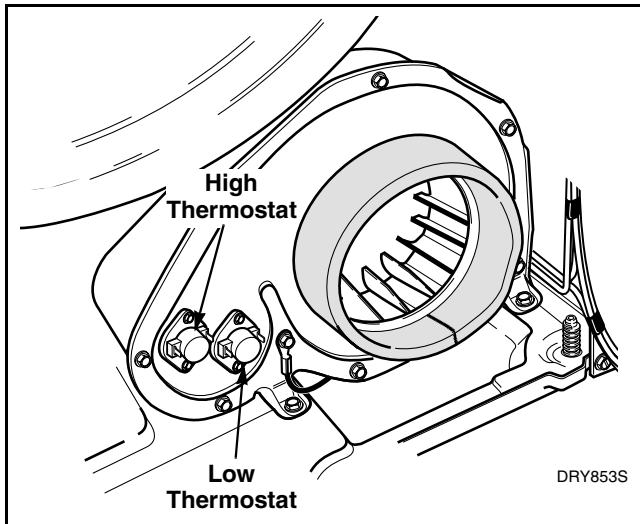

Figure 15
- b. Refer to *Figure 15* for thermostat removal.
- (1) Remove front panel, *Paragraph 22*, steps “a” through “d”.
- (2) Refer to *Figure 15* for thermostat removal.